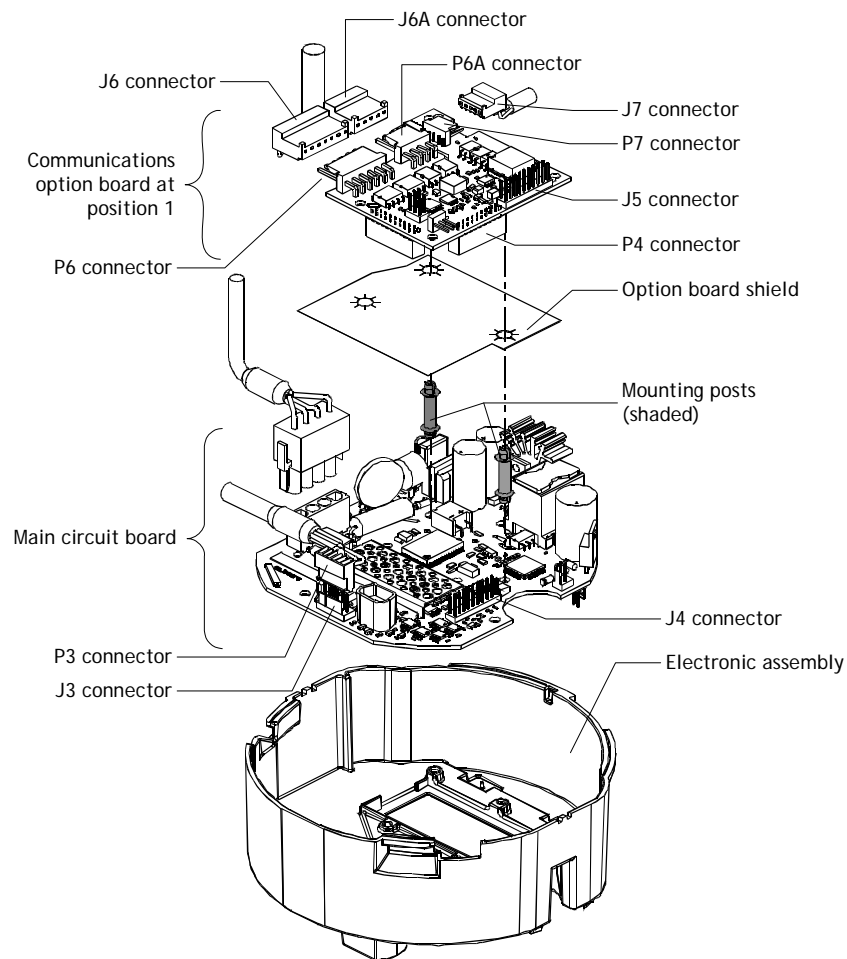
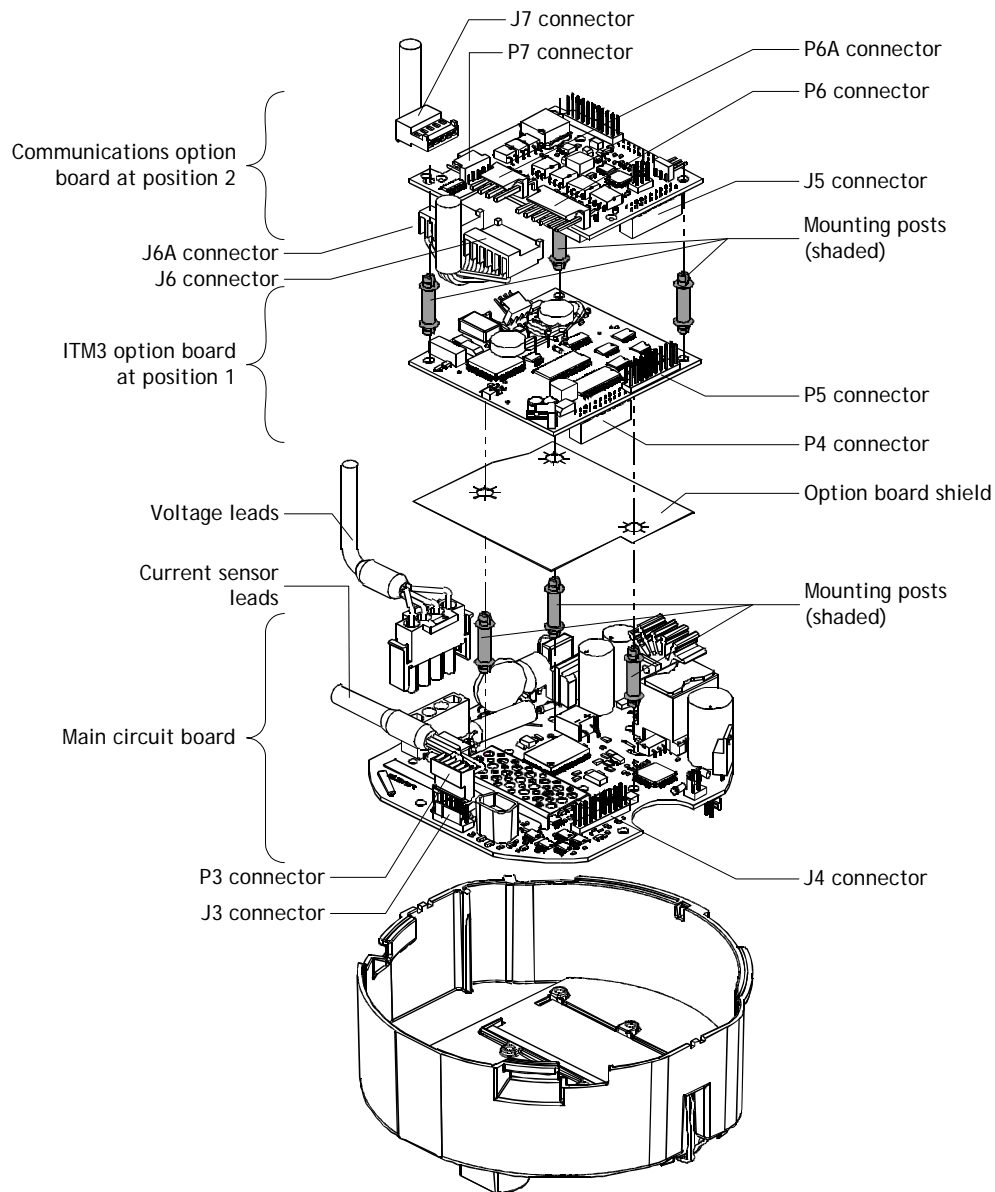

Figure 3. Mounting the RS-232/RS-485 option board on the A3 ALPHA meter
Figure 5. Mounting RS-232/RS-485 option board at position 2
Use the following procedure to mount the communications option board at position 1 (see Figure 3). Note that the procedure is the same regardless of the meter (ALPHA Plus or A3 ALPHA) or option board (RS-232 or RS-485) at position 1.
2. Insert two plastic mounting posts in the proper holes in the ALPHA meter board as shown in Figure 3.
Use the following procedure to mount the communications option board at position 2 (see Figure 5). Note that the procedure is the same regardless of the meter (ALPHA Plus or A3 ALPHA) or the option board (RS-232 or RS-485) at position 2.
2. Insert 3 plastic mounting posts in the proper holes in the option board at position 1 (see Figure 5).
1. Reconnect the current and voltage connectors from the base housing to the electronic assembly. Note that the connectors are keyed for proper orientation. Special care should be given to the 6-pin current sensor connector. The connector is polarized; however, it is still possible that it can be forced into incorrect position. Be sure to align the ears on the bottom of the P3 connector with the slots on the J3 connector as shown in Figure 3 or Figure 5.